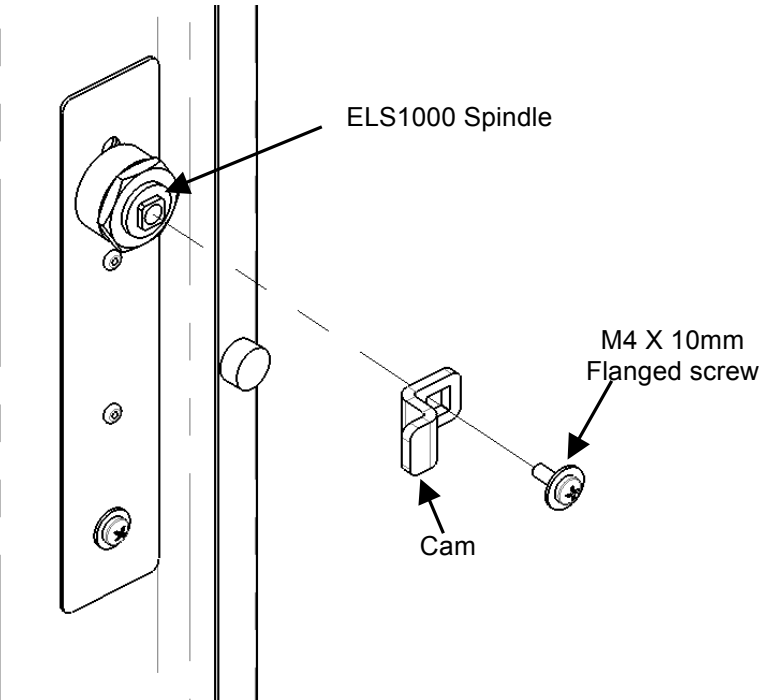

Fig. 4
- Placing the cam over the lock spindle, fasten the cam with M4 X 10mm Flanged screw (Fig.4)